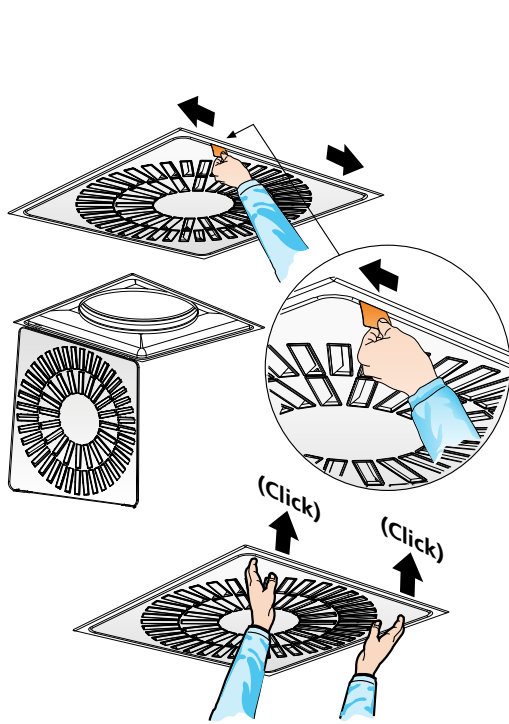

Figure 2. Quick Access.
- Place the card in between the diffuser face and the diffuser backing box in order to release the springs. Move the card from the centre out towards the corner, see Figure 2.
- The duct system can be reached for cleaning after opening the diffuser face, see figure 2, Quick Access.